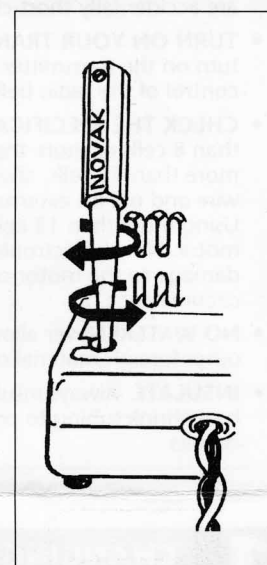

FIGURE 9 Hold the transmitter at 90% throttle and rotate the HI SPEED pot on the speed control until the green LED turns on.
4. Hold the transmitter at 90% throttle and rotate the HI SPEED pot on the speed control until the green LED turns on (FIGURE 9).